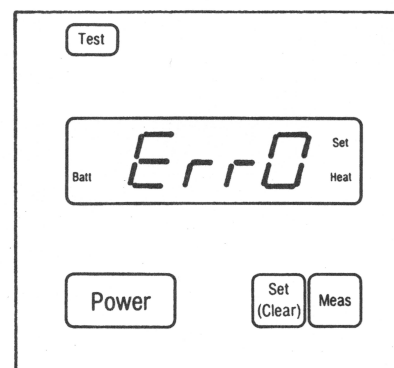

Figure 15. Temperature Display/ *ErrD*.
Ovens are equipped with a self-protect (SP) feature. They will not operate at set-temperatures in excess of rated 260°C capacity. *ErrD* is shown in temperature display Figure 15) when this occurs. To re-start, set temperature below oven's 260°C rated capacity (3.7.1).